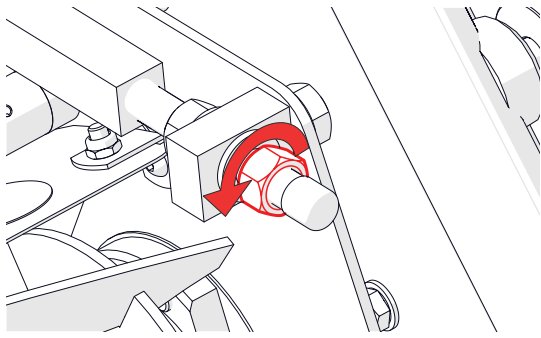

Fig.22C - Loosen the lock nut
6. Adjust the gap with the adjustment nut [19 mm spanner] (Fig.22C). Only very small adjustments are required - start with $\frac{1}{8}$ of a turn and repeat the paper cut test. Repeat adjustment until the paper cuts cleanly.